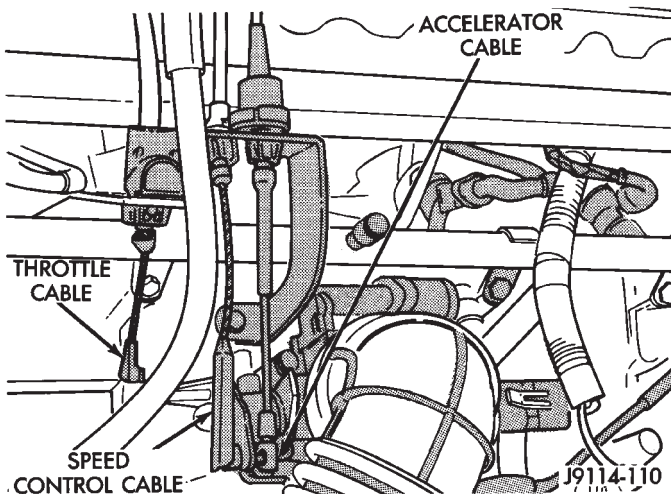

Fig. 8 Accelerator Cable, Throttle Cable and Speed Control Cable
(12) Inspect accelerator cable, transmission throttle cable (if equipped) and cruise control cable connections (if equipped). Check their connections to the throttle arm of throttle body for any binding or restrictions (Fig. 8).